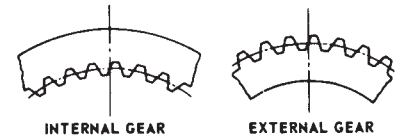

FIGURE 1.6 — INTERNAL & EXTERNAL GEARS
- 1.14** An **Internal Gear** is one with the teeth formed on the inner surface of a cylinder or cone. An internal gear can be meshed only with an external pinion. (Figure 1.6)
- 1.15** An **External Gear** is one with the teeth formed on the outer surface of a cylinder or cone. (Figure 1.6)